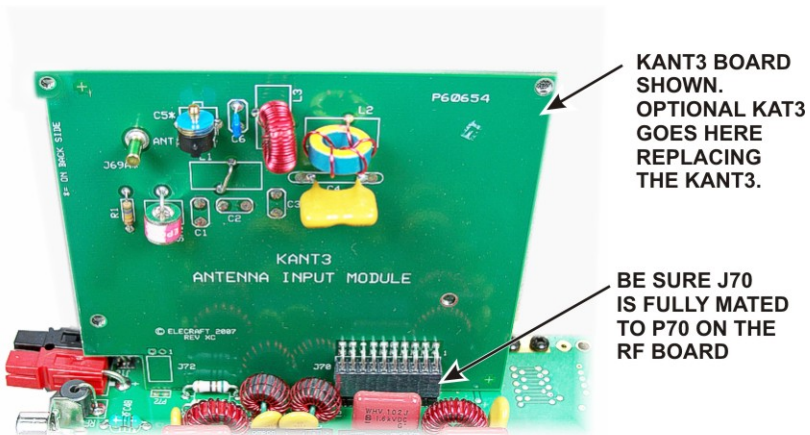

Figure 24. Installing the KANT3 or KAT3 Board.
□ Insert J70 on the KANT3 or the KAT3 board into P70 near the red and black APP power connectors at the right rear corner of the RF board. The KANT3 board is shown in Figure 24. The KAT3 board fits exactly the same way **with the toroidal inductors toward the center of the RF board.**